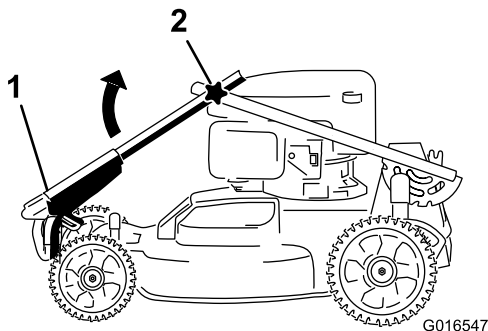
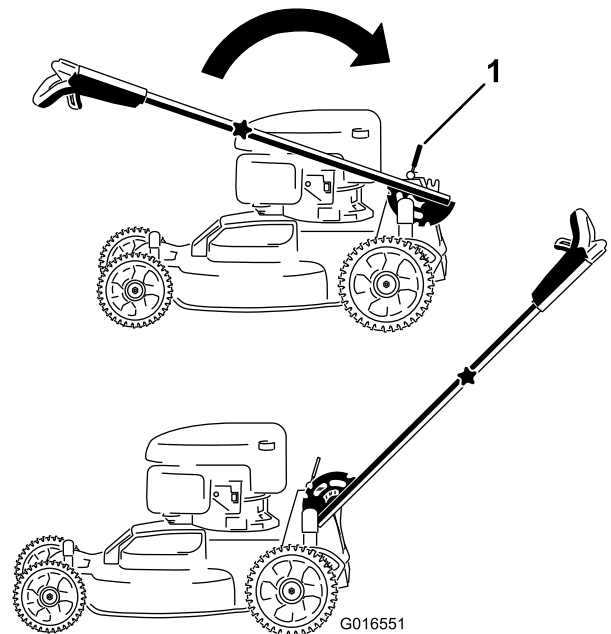

Figure 3
Figure 4
1. Rotate the upper handle so that it nests together with the lower handle (Figure 3), and tighten both knobs on the handle to lock the upper handle in place (Figure 4).
2. Release the handle-lock lever (Figure 4).
3. Pull the handle rearward and lock it into position (Figure 4).